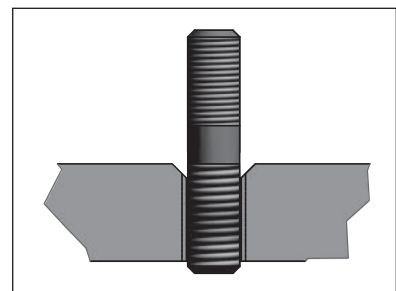

Figure 54
**CAUTION:** Over tightening of the studs or running the shoulder past the transmission mounting surface may damage stud and/or transmission threads (**Fig. 54**).